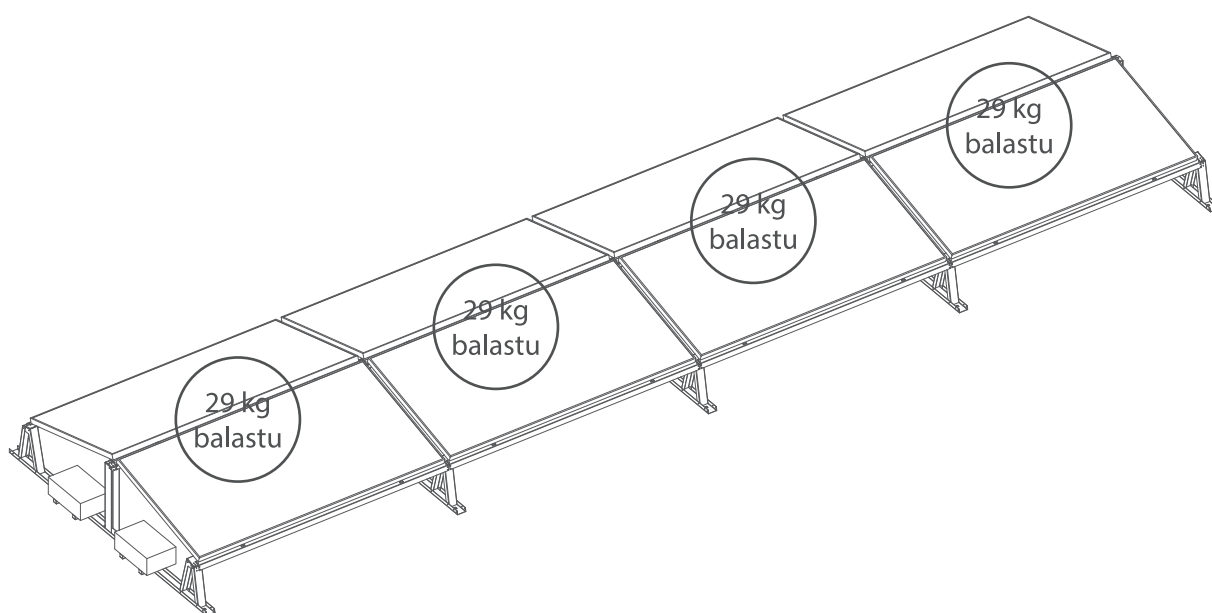

Fig. 7. arrangement ballast To one row panels photovoltaic
- 6** If there will be a row panels photovoltaic it for one panel is 29 kilos of ballast (Fig. 7).